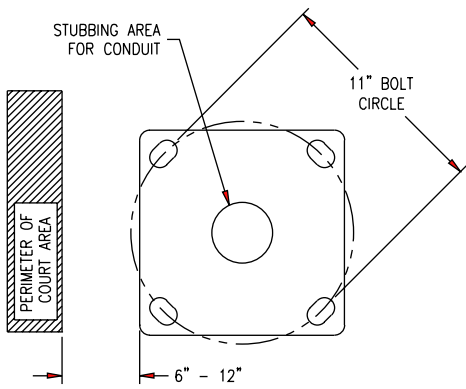

FIGURE 1
1. See chart below. Anchor bolts provided should be set into the foundation on an 11" bolt circle diameter. Bolts should be positioned so they are square with court edge. See Figure 1.